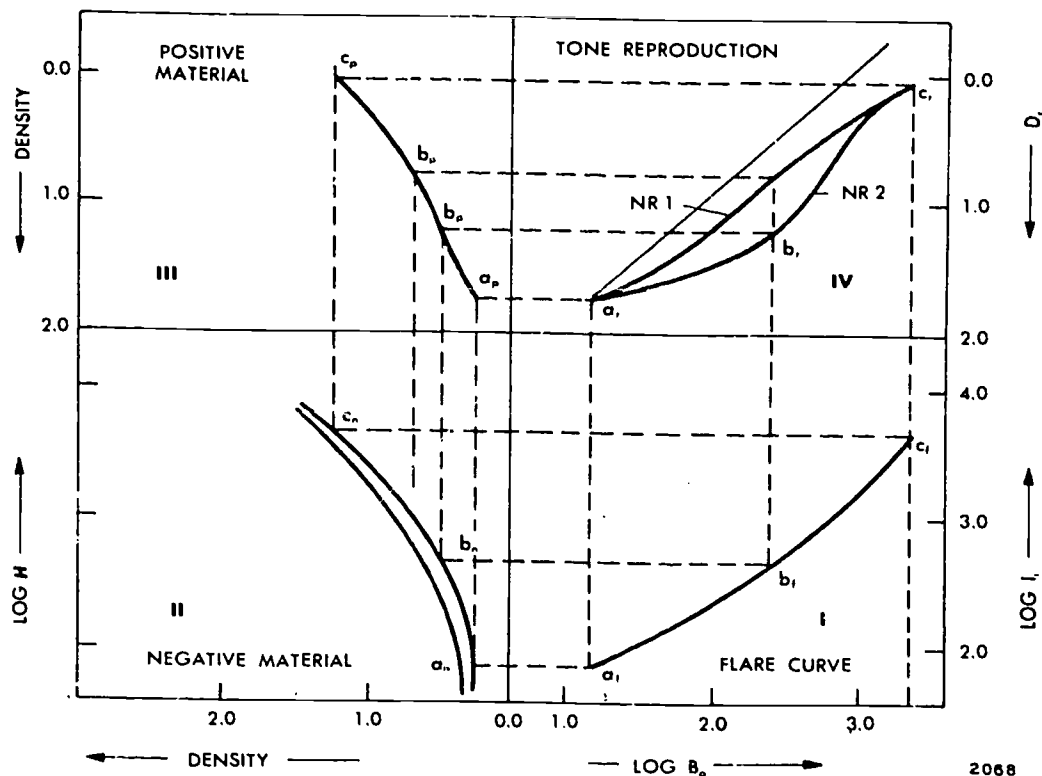
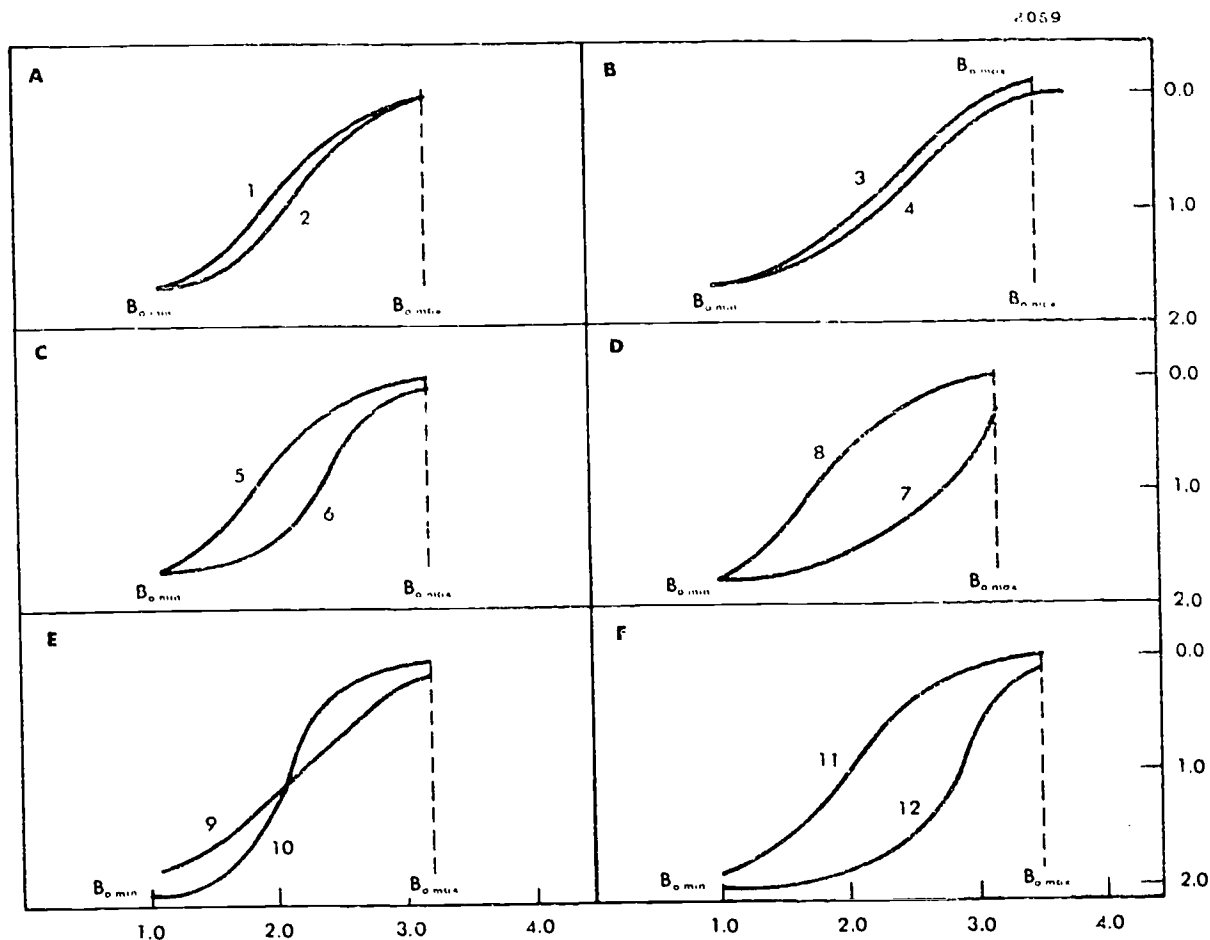

Figure 2-15. Tone reproduction curves produced by two different negative materials.
Figure 2-16. Analy. of tone reproduction curves.
(1) Locate two points, a_i and c_i on the B_o axis of quadrant I shown in figure 2-15. Point a corresponds to the minimum object luminance, and point c corresponds to the maximum object luminance. It has been experimentally determined that the maximum and minimum luminances for the average scene are 2300 and 14.5, respectively.
(2) Following the procedures outlined earlier in this text, plot the measured values of IS . The flare factor for the average camera is 4, the total image scale is 40, and the ΔB , as computed by equation
(3) Quadrant II is turned 90° counterclockwise from quadrant I. A D log H curve of the negative material is positioned so that the minimum camera exposure which will produce a good print corresponds to the Log B_{omin} (point a_i) of the flare curve. (This may be set at the speed point for USASI film speed.) This point, as in figure 2-15, is located by extending a horizontal line from point a in the flare curve. Points b_i and c_i are located in a similar manner. Curves 1 and 2 are drawn to illustrate the effect of materials having short- and long-toe characteristics, respectively.
(4) Place the characteristic curve of the positive material in quadrant III. If the positive material is paper, select a grade having a long exposure scale approximately equal to
(5) The tone reproduction curve in quadrant IV results from connecting the points (a_i , b_i , and c_i) where the horizontal lines extending from the positive curve intersect the vertical lines extending from the flare curve. If there were not flare light in the camera and if the negative and positive were exactly matched, the tone reproduction quadrant would contain a straight line of 45° ; however, any changes occurring in the flare characteristics, the negative material, or the G of the positive material will cause characteristic changes in the tone reproduction curve. The two curves in figure 2-15 show the effect of a change in toe-shape characteristics in the negative material.
Diagram analysis. To analyze the curves of figure 2-15, note that both curves lie below at 45° line. This line is placed at the toe of the reproduction curve to evaluate the response in relation to the shadow densities. Quite often, the 45° line is placed so that it corresponds to the B_{max} . When this is done, the ideal response is related to that portion of the scene least affected by flare.
Position of the reproduction curves in figure 2-15 indicates that the reproduction is dark because density increases in a downward direction in quadrant IV. Also, the average slope of the curves (being less than 45°) indicates that the reproduction is flat. The density of the reproduction can be corrected by shifting the position of the positive curve to decrease the exposure. Likewise, the means by which negative and print contrast are increased may be used to bring the reproduction curve closer to the 45° angle, if that is the desired result.
The changes in tone reproduction curves, brought about by changes in the various factors, are illustrated in figure 2-16. These cases are extreme but not unreasonable. In figure 2-16, A, curves 1 and 2 are those of figure 2-15. They show the effect of the changes in toe-shape characteristics of the negative material.
In figure 2-16, B, curves 3 and 4 show changes due to the luminance scale of the scene. Curves 5 and 6 in figure 2-16, C illustrate possible changes due to differences in flare light. This situation can occur when two different cameras are used to photograph the same scene. The camera that
produced curve 5 had a minimum of flare, whereas considerable flare was present in the camera which produced curve 6. By changing the level of exposure in the camera, you can produce the curves shown in figure 2-16,D. Curve 7 is the product of an exposure that is two stops less than required for an excellent print. Curve 8 is the result of an increase of two stops over that needed for an excellent print. If you have changed the grade of printing paper from grade 0 to grade 4, curves 9 and 10, shown in figure 2-16,E, are produced. Finally, altering the printing exposure level affects the changes illustrated in figure 2-16. Curve 11, in this case, resulted when printing solely for the shadow detail, whereas printing exclusively for the highlight detail produced curve 12.
3. Why does the position of the reproduction in figure 2-15 indicate that the reproduction is dark?
4. What causes the situation shown in curves 5 and 6 in figure 2-16, C?